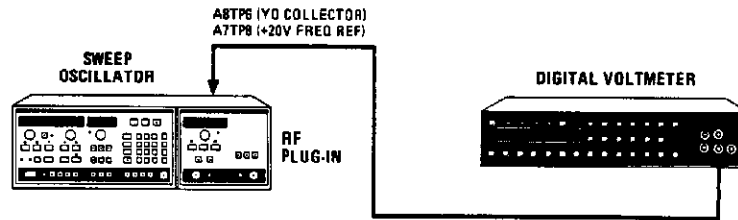

Figure 5-6. YO and YTM/YTF DAC Calibration Adjustment Locations
1. Connect the equipment as shown in Figure 5-6. First connect the DVM to A6TP9 (VTUNE) and the reference probe to A6TP10 (VTUNE RET). Refer to Figure 5-7 for test point and adjustment locations. Allow the RF Plug-In to warm up for one hour.